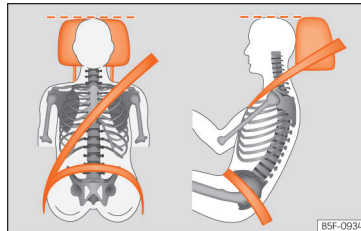

Fig. 15 Correct belt web and headrest positions
- Adjust the head restraint so that its upper edge is, as far as possible, at the same level as the top of your head, as close to eye level as possible **>>> page 95**. Keep the back of your neck as close as possible to the headrest **>>> Fig. 15**.
- Adjust the seat lengthwise so that you can fully step on the pedals with your knees slightly bent and there is a distance between the knee area and the instrument panel of at least 10 cm (4 inches) >>> Fig. 15.